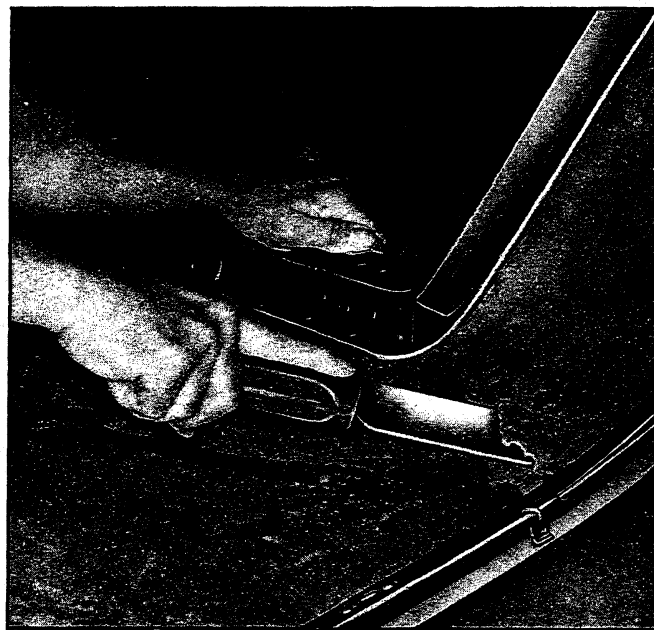

Fig. 96—Cleaning Top Inner Surface
3. Soak remaining particles of sponge which cling to top with Prep-Sol or its equivalent and scrape off (fig. 96).